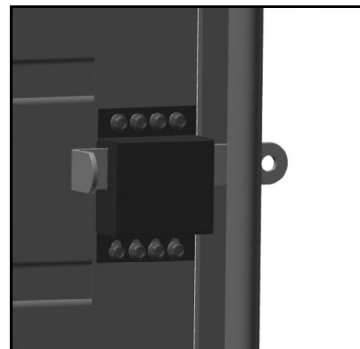

FIGURE 8.2
**8.2.B** The inside slide bolt lock (EE) is installed to the left or the right of the vertical track. Refer to figure 8.2.